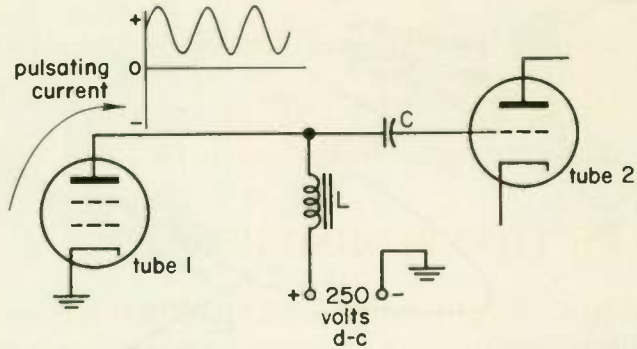

Fig. 33
- In Fig 33, a pulsating current comes out of the plate of tube 1. This pulsating current is separated into its d-c and a-c components by (a) _____ and _____. The d-c component goes to (b) _____, and the a-c component goes to (c) _____. The 250-volt d-c is kept off the grid of tube 2 by (d) _____; and (e) _____ keeps the a-c component from flowing through the power supply, so that it will have to go to (f) _____